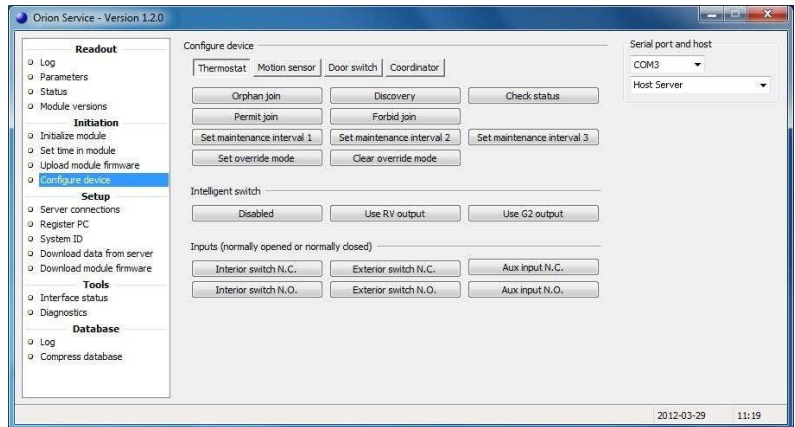

Figure 24
2. Click the **Permit Join** button in the **Configure device** section of Orion Service; see Figure 24.